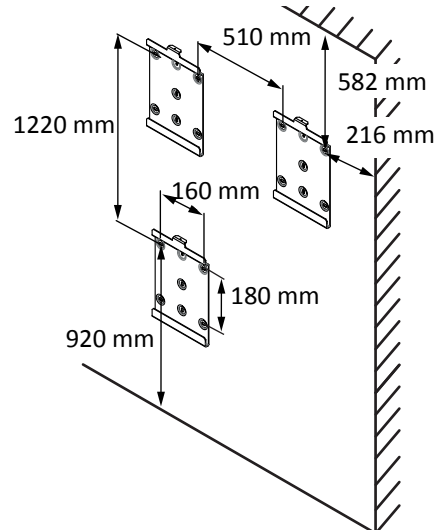

Fig. 13: Wall mounting
- Minimum clearances to be observed during installation: [See figure 13] [▶ Page 18]